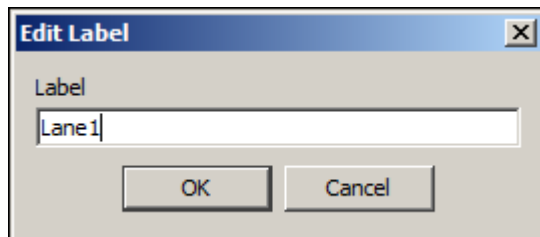

Figure 35: Edit Label
2. The **Edit Label** screen is displayed (see Figure 35).